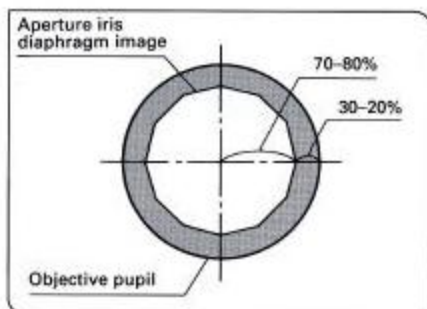

Fig. 23
2 Aperture Iris Diaphragm (Figs. 23, 24)
- ⊙ The aperture iris diaphragm determines the numerical aperture of the illumination system. Matching the numerical aperture ① of the illumination system with that of the objective provides better image resolution and contrast, and also increases the depth of focus.
- ⊙ Since the contrast of microscope specimens is ordinarily low, setting the condenser aperture iris diaphragm to 70–80% of the N.A. of the objective in use is usually recommended. When necessary, adjust the ratio by removing the eyepiece and looking into the eyepiece sleeve while adjusting the aperture iris diaphragm lever ② until the image shown in Fig. 23 is seen.